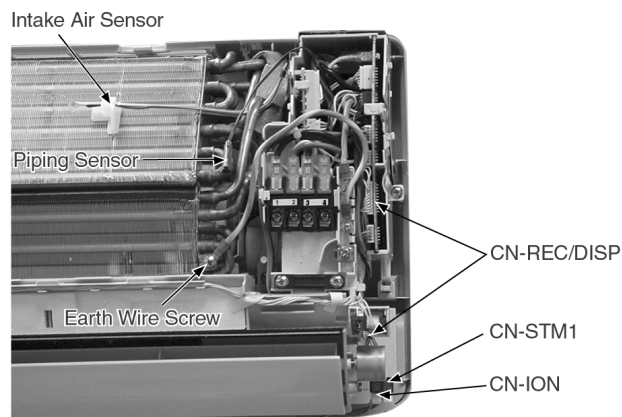

Fig. 5
- Release the Earth Wire screw. (Fig. 5)
- Release the Intake Air Sensor. (Fig. 5)
- Release the Piping Sensor. (Fig. 5)
- Release the CN-REC/DISP connectors. (Fig. 5)
- Release the CN-STM1 connector. (Fig. 5)
- Release the CN-ION connector. (Fig. 5)